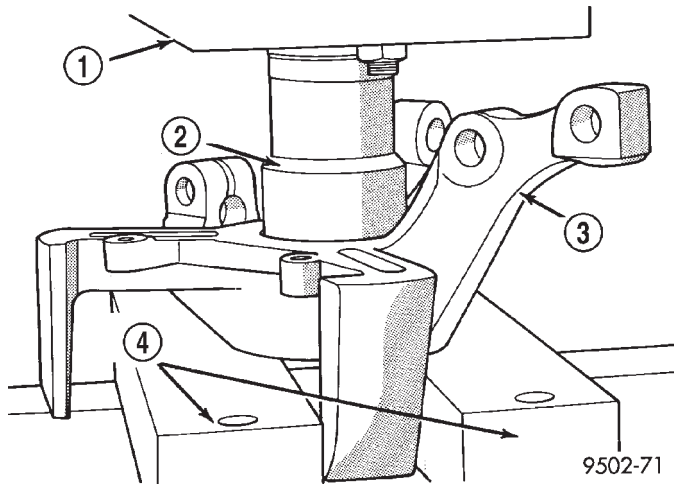

Fig. 37 Wheel Bearing Removal From Steering Knuckle
(10) Place the steering knuckle back in the arbor press supported by press blocks as shown (Fig. 37). The press blocks must not obstruct the bore in the steering knuckle so the wheel bearing can be pressed out of the steering knuckle. Place Bearing Driver, Special Tool MB-990799 on the outer race of wheel bearing (Fig. 37). Press the wheel bearing out of the steering knuckle.